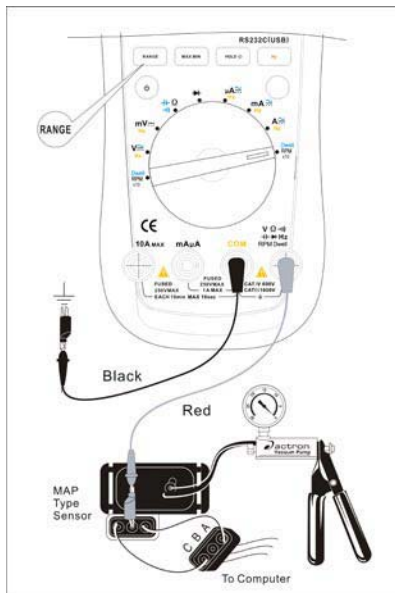

Figure 25
#### 4. Absolute Pressure (MAP) and Baro Sensor (see figure 25)
- (1) Connect the DC voltage type MAP sensor in the DC voltage testing method and set the rotary switch to **DCV**.
- (2) Connect the frequency type MAP sensor in the RPMx10 testing method and set the meter to the number of cylinders in the automobile.
- (3) Taking 4 cylinders (4CYL) for example, connect the black test lead probe of the meter to the ground terminal (i.e. ground strap connection) and connect the red one as illustrated in figure 25.
- (4) Turn on the ignition key but do not start the engine.
- (1) Connect the DC voltage type MAF sensor in the DC voltage testing method and set the rotary switch to DCV. Connect the frequency type MAF sensor in the RPM testing method and set the meter to the number of cylinders in the automobile. Now take 4 cylinders (4CYL) for example.
- (2) Connect the black test lead probe of the meter to the ground terminal (i.e. ground strap connection) and connect the red one as illustrated in figure 25.
- (3) Turn on the ignition key but do not start the engine.